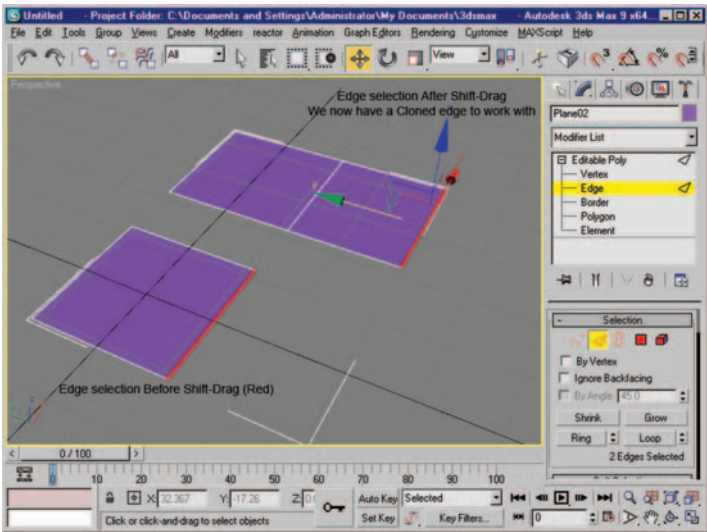

Figure 3.3 Edge subobject selection prior to and after shift-drag technique is executed.
- 4. Let's select an edge by clicking on the word Edge in the sub-object list. Now if we select any single edge, or group of edges, in our viewport they will turn red and the fun begins (Figure 3.3).
- 5. With the Move tool selected, we hold down the Shift key and begin to drag the edge selection, in the process cloning the edge or group of edges as we move them (Figure 3.3).